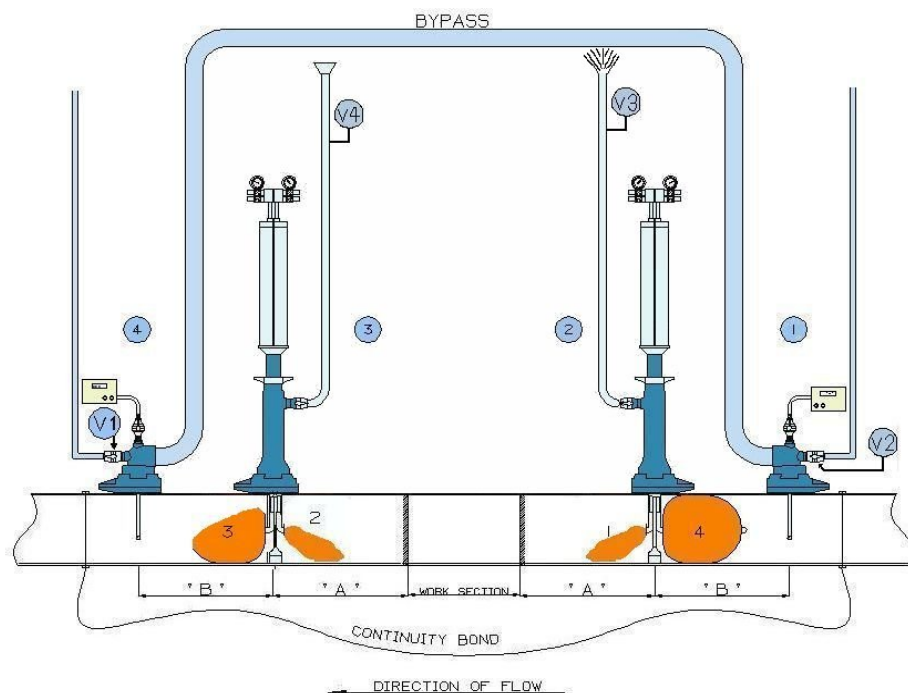

Figure 80– Purging With Primary Bag Partly Deflated
4. In a controlled manner deflate the downstream Primary Bag no.3. The rate of flow should be controlled such that the downstream gas supply is not affected. (Refer to Figure 80).
10. Bag 4 can then be deflated and withdrawn (Refer to Figure 80).